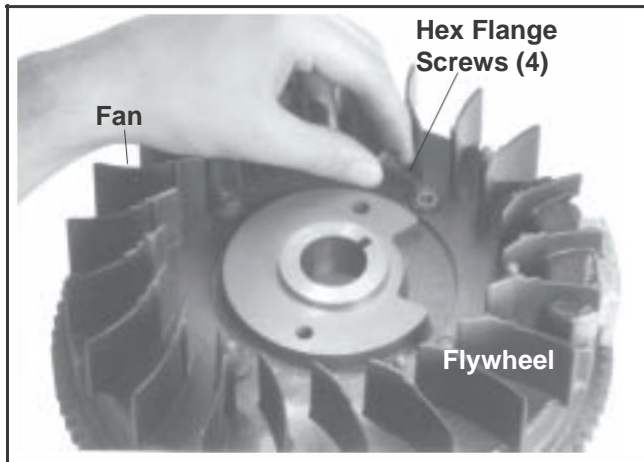

Figure 11-25. Installing Fan To Flywheel.
1. Install the fan, spacers and hex flange screws to the flywheel. See Figure 11-25.